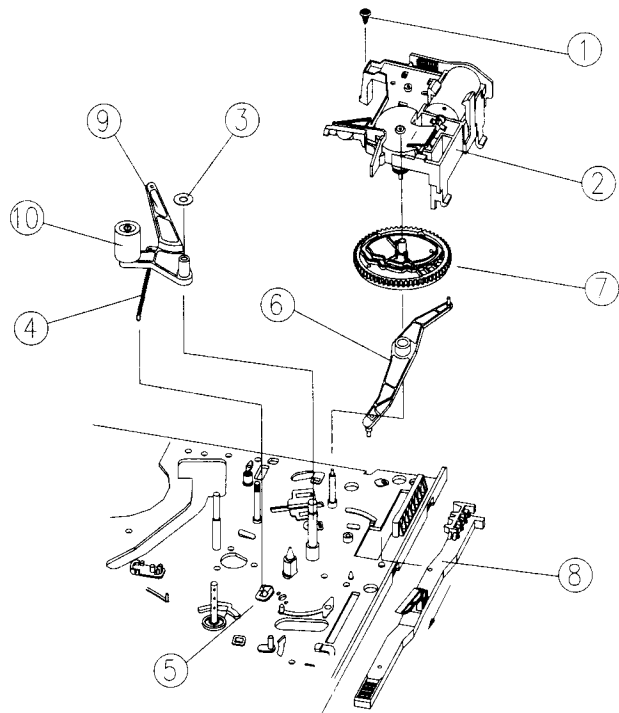

Fig.3-11 L/C BRKT, PINCH LEVER, CAM GEAR, RELAY LEVER, F/L RACK REMOVAL
### 3-6. L/C BRACKET ASS'Y REMOVAL (See Fig.3-11)
### 3-7. PINCH LEVER TOTAL ASS'Y REMOVAL (See Fig.3-11)
### 3-8. CAM GEAR, RELAY LEVER AND F/L RACK REMOVAL (See Fig.3-11)
- a. Remove the CAM GEAR ⑦ from the MAINBASE. (Fig.3-11)
- b. Remove the RELAY LEVER ⑥ from the MAINBASE. (Fig. 3-11)
- c. Remove the F/L RACK ⑧ from the MAINBASE by pulling it in the direction of the arrow.